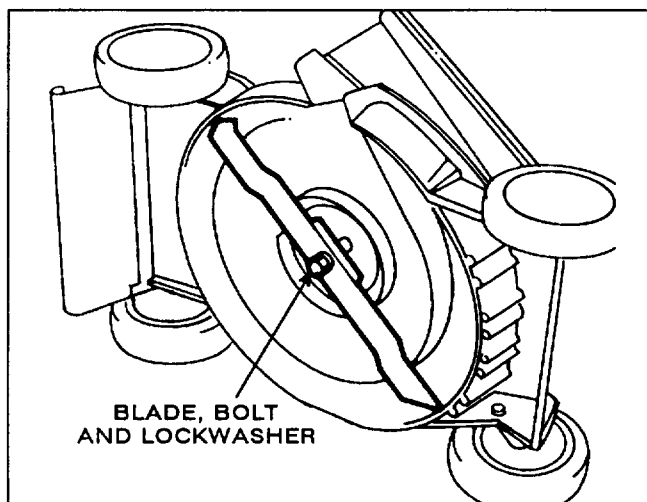

Figure 16
3. Tip mower on its left side (Fig. 16).
5. REMOVING BLADE—Grasp end of blade using a rag or thickly padded glove. Remove blade bolt, lockwasher, and blade (Fig. 16).